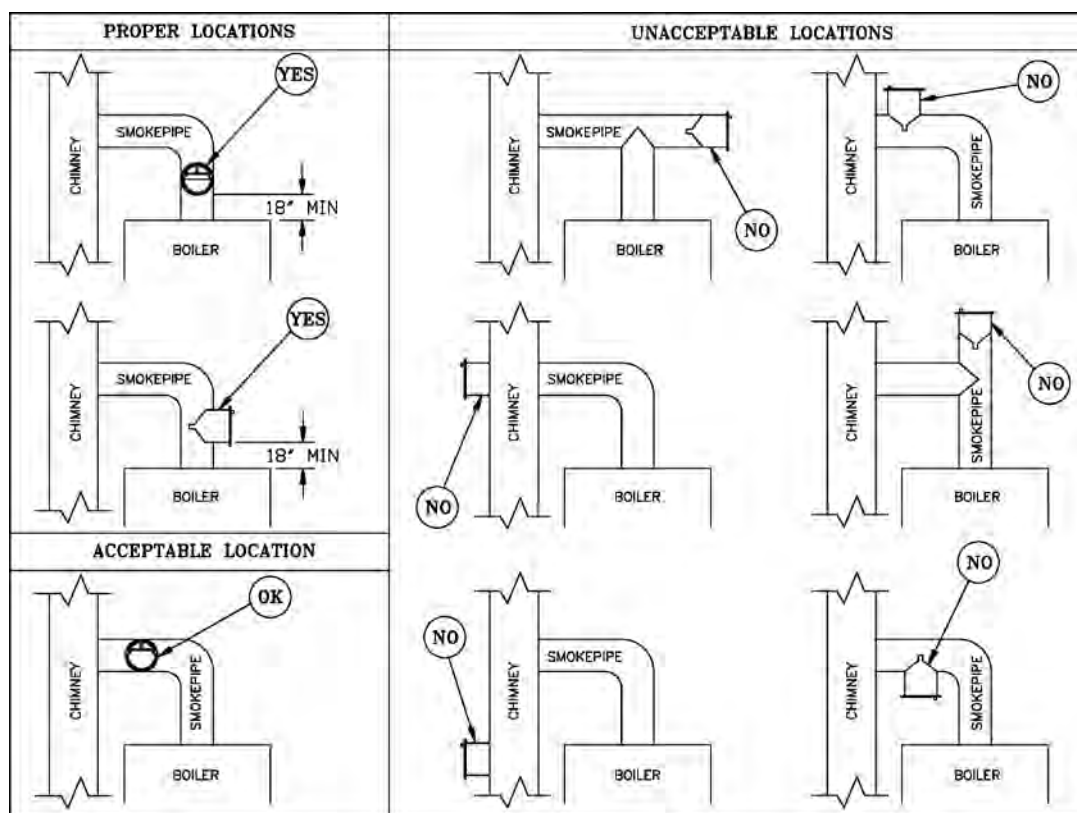

Figure 14: Proper and Improper Locations of Draft Regulator
1. Install a draft regulator (supplied by installer) following the instructions furnished with the regulator. See Figure 14 for draft regulator locations.